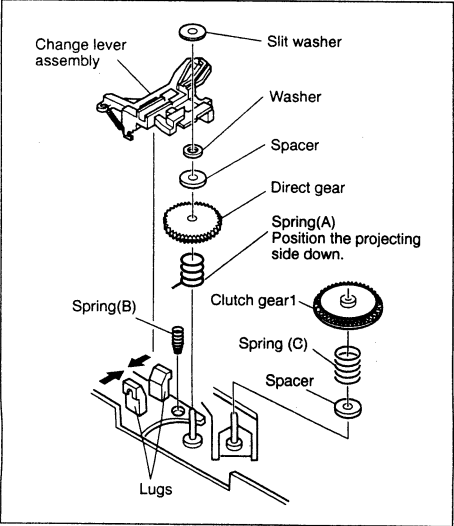

Fig. 2-2-23
- (1) Release the two lugs of the rotary encoder guide in the arrow-indicated direction and remove the change lever assembly.
- (2) Remove the slit washer retaining the direct gear and remove the latter. Take care so as not to lose the washer and spring. (See Fig.2-2-23.)
- (1) Install the clutch gear1, spring (A), spring (C), direct gear, spacer and others to the individual shafts of the main deck, and finally the slit washer. (See Fig.2-2-23.)